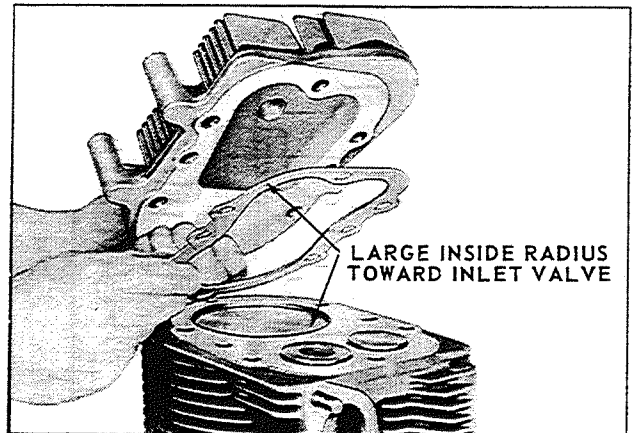

Fig. 24 293067C
#### CYLINDER HEAD and SPARK PLUG (Fig. 24)
*In reassembly*, use new cylinder head and spark plug gaskets. **Note:** Internal contour of cylinder head gaskets at inlet and exhaust valves are not the same. Mount gasket to cylinder block with the larger internal radius located at the inlet valve. See Fig. 24.